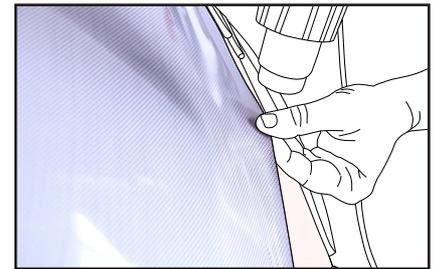

Figure 16
- › Heat the bottom of the film to 30 °C - 40 °C (86 °F - 104 °F) with the heat gun to release the tension previously applied to the film and thus reduce the tunnels that have formed during application. (FIG. 16)